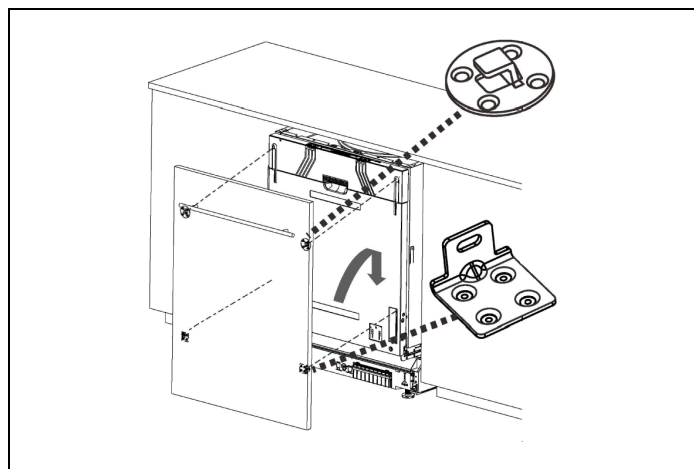
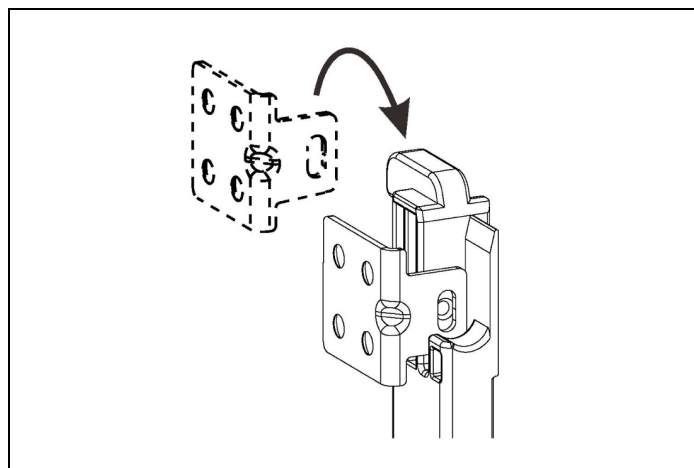

Fig. 16
Fig. 17
- 2) Fasten the hook on the custom door panel and insert it into the slot on the outer door of the dishwasher (Fig. 16 ,Fig. 17).